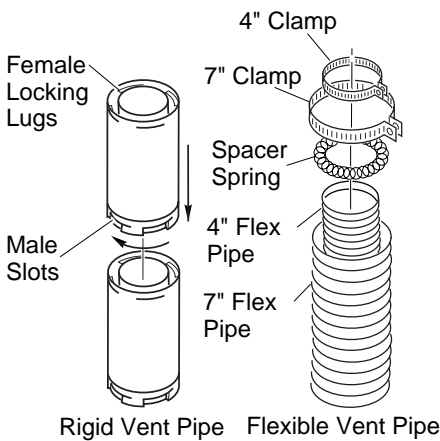

Figure 12 - Vent Pipe Connections
**Twist-lock Procedure:** The female ends of the pipes and fittings have four locking lugs (indentations). These lugs will slide straight into matching slots on the male ends of adjacent pipes and fittings. (All connections must be sealed with high temperature silicone sealant as specified in the second warning on page 7.) Push the pipe sections together and twist one section clockwise approximately one-quarter turn until the sections are fully locked. See Figure 12, page 9. *Note:* Horizontal runs of vent must be supported every three feet. Use wall straps for this purpose.
Flexible vent pipe must be installed with spacer springs every 12". See Figure 12, page 9. All connections must be clamped tightly and sealed with high temperature silicone sealant as specified in the second warning on page 7.
2. Assemble the desired lengths of pipe and elbows necessary to reach from the fireplace flue up through the firestop. All connections must be sealed with high temperature silicone sealant as specified in the second warning on page 7. Be sure all pipe and elbow connections are fully twist-locked (see Figure 12, page 9).